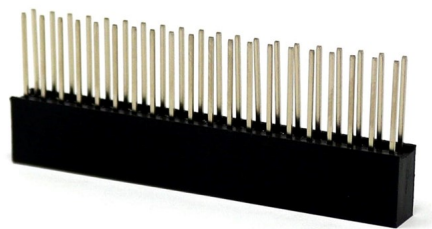

Fig. 2.1: Raspberry Pi HAT Connector - 10 mm Extended Tail Socket
- A stacking header block, such as pictured in Fig. 2.1 to mount the XK-VOICE-SQ66 evaluation kit board onto the Raspberry Pi using the standard 40 pin GPIO header. A suitable part is Toby REF-182668-01.